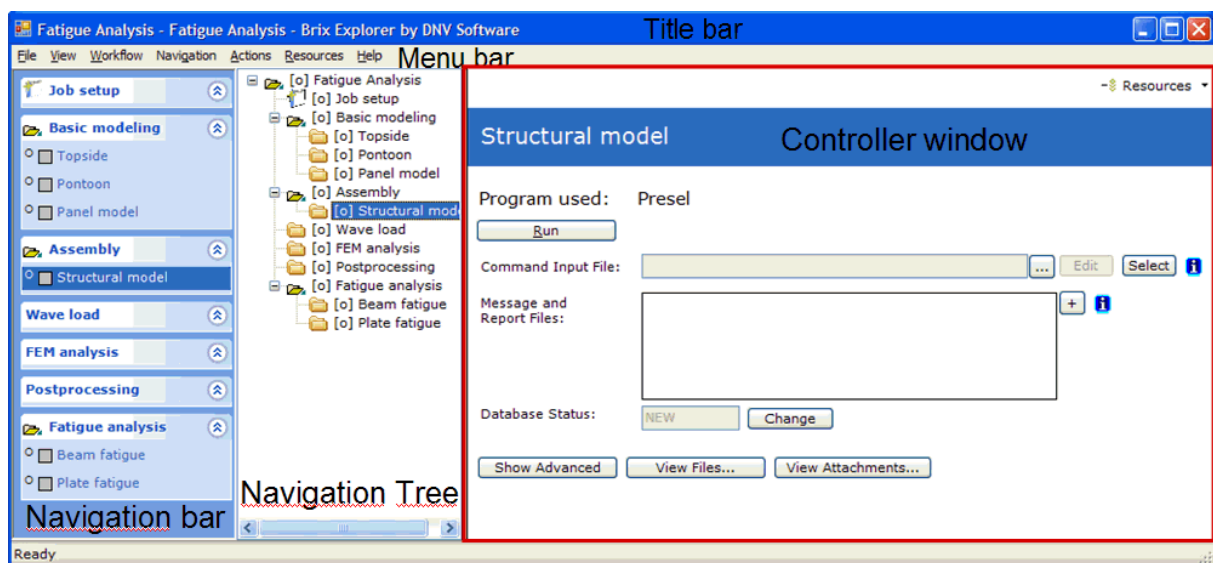

Figure 3.11 The Job Explorer Window
When you open a job (new or ongoing) the Job Explorer window is opened. The window looks as shown in Figure 3.11. The window consists of the following parts:
**Controller window** – The window where you define the settings and run the selected activity (the red box in Figure 3.11). Note that this window has two modes; simple and advanced.